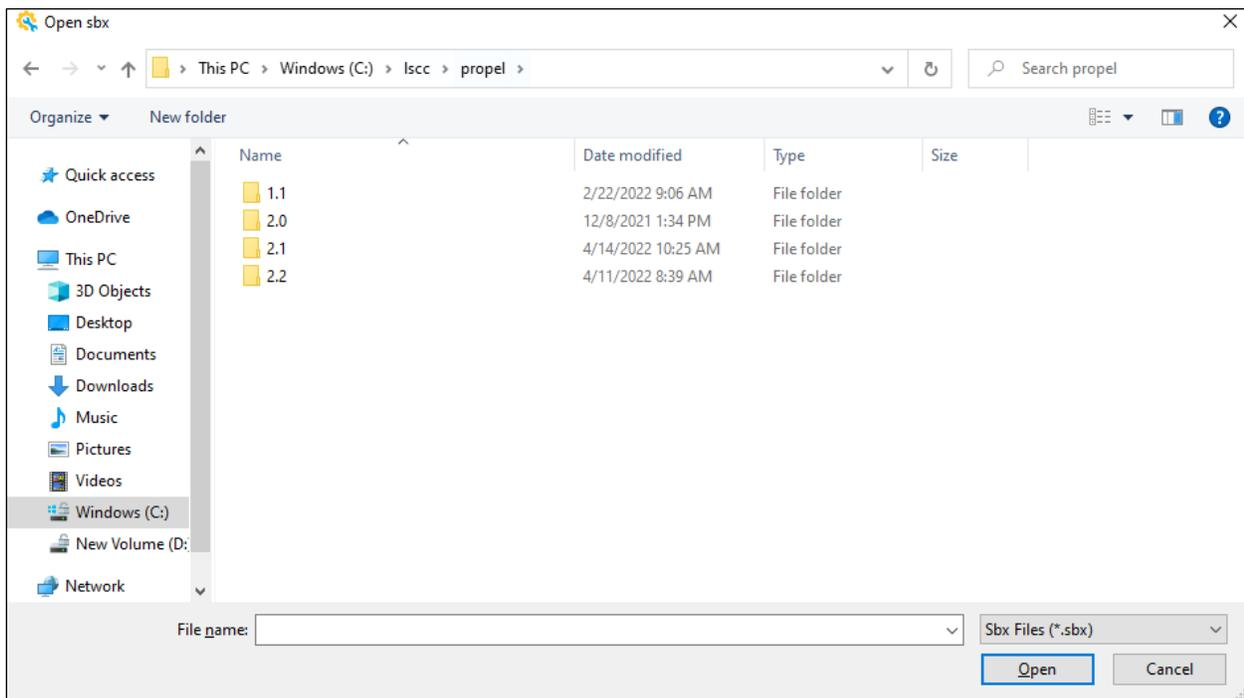

Figure 2.9. Open Sbx Dialog
1. Choose **File** > **Open Design** from Propel Builder GUI Menu or Click **Open Design** icon from Propel Builder Toolbar. The Open sbx dialog opens (Figure 2.9).